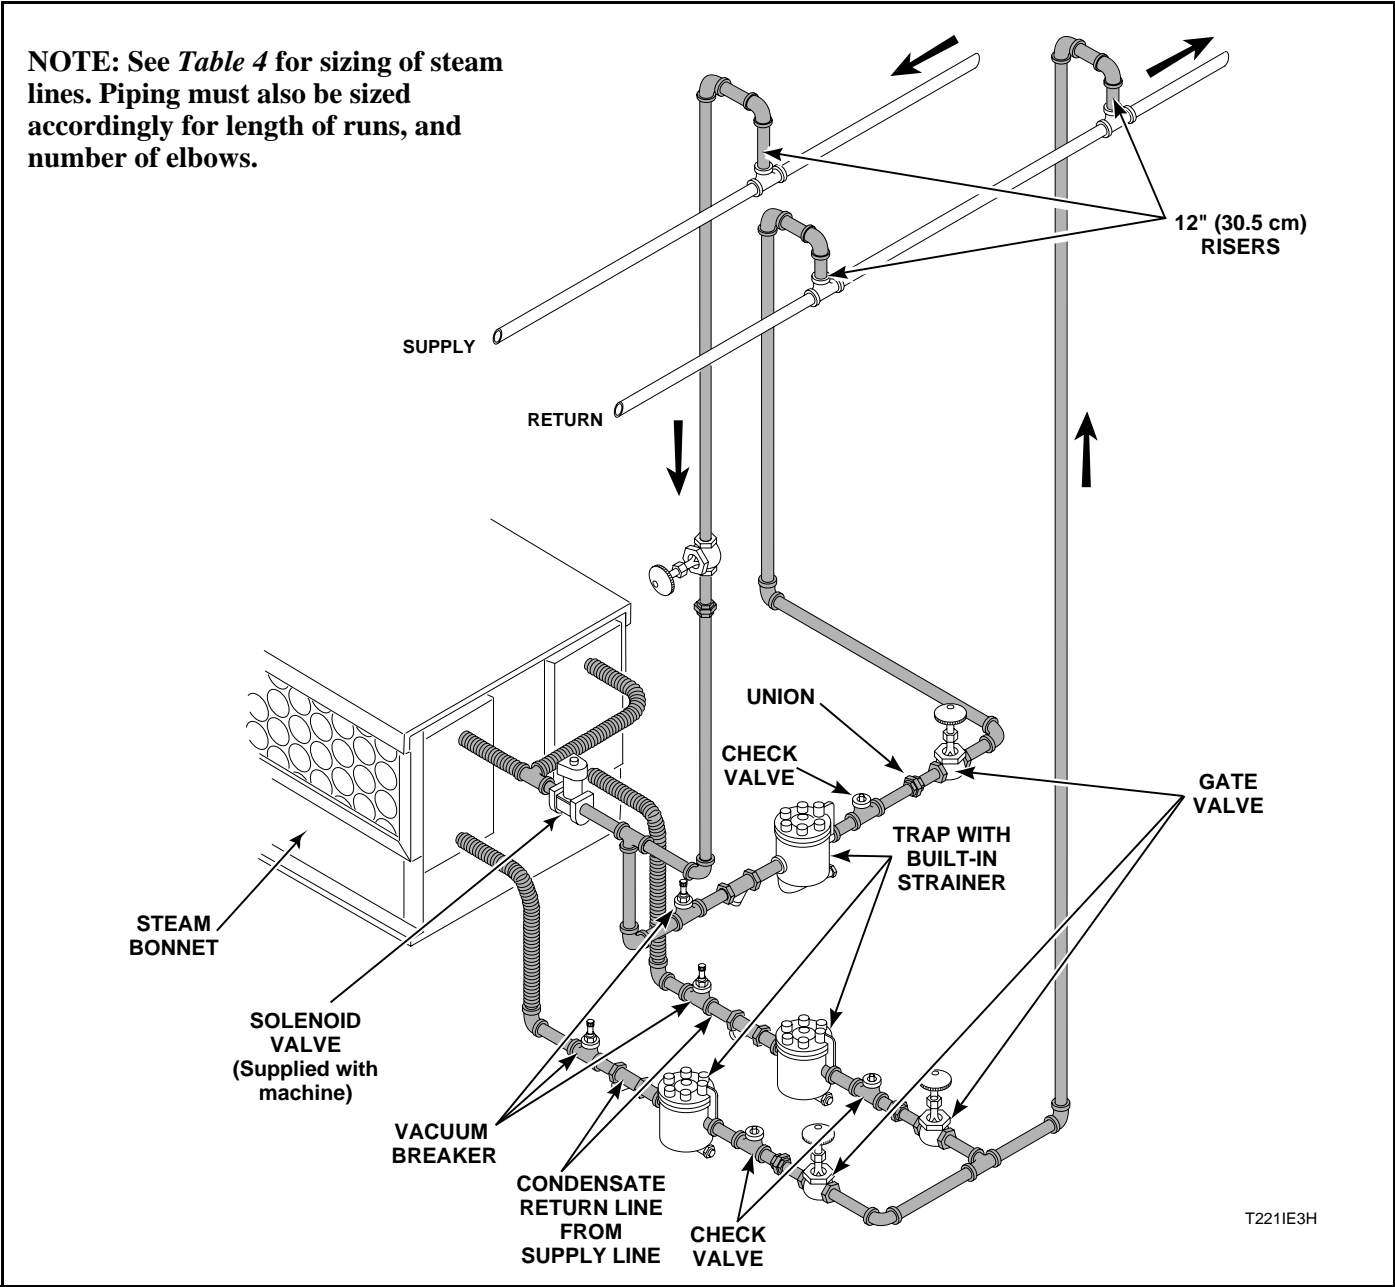

Figure 13
1. Refer to *Figures 13, 14, and 15* for proper steam pipe configurations.
- b. Connect the steam solenoid valve to the related steam coil inlet connection with nipples, flex hoses, unions, and tee. See *Figures 13, 14, and 15* for typical installations.
- c. Install a gate shut-off valve in the steam supply line. Connect the shut-off gate valve outlet to the solenoid steam valve inlet connection. See *Figures 13, 14, and 15* for typical installations.
The steam trap must be installed and the coil outlet connections must be connected to the condensate return lines. The following steps outline the procedure for installing the steam trap and connecting the condensate return lines. See *Figures 13, 14, and 15* for typical installations.